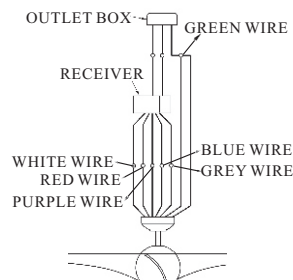

FIG. 12
2. Connect the red wire from receiver to the red wire from fan with wire nut. Connect the purple wire from receiver to the purple wire from fan with wire nut. Connect the blue wire from receiver to the blue wire from fan with wire nut. Connect the grey wire from receiver to the grey wire from fan with wire nut. Connect the white wire from receiver to the white wire from fan with wire nut. Connect the green wire from ceiling, and green wire from hanger bracket with green wire from downrod ball with wire nut. (See fig.12)